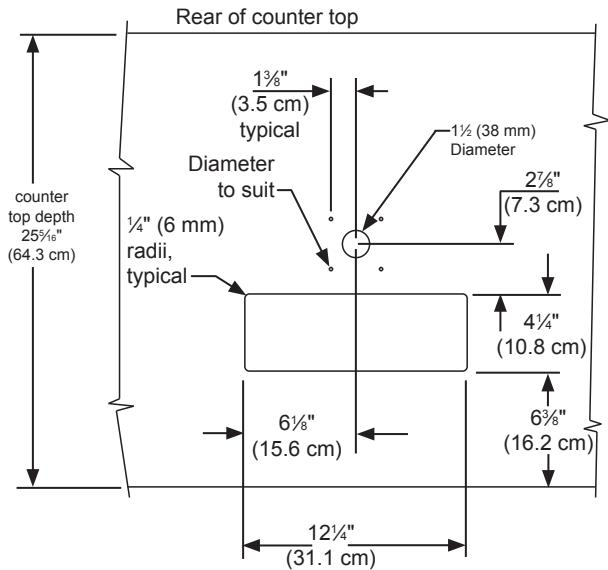

Figure 31
The cutout dimensions shown in Figure 31 are based on a $25\frac{5}{16}$ " (64.3 cm) deep counter top. Your counter top may be different than this and require other front to back dimensioning. Refer to the product dimensions on pages 6 and 7 when determining the required dimensions.
4. If you are installing your keg refrigerator under a counter you will need to drill 5 holes in the counter top to mount the tower. The first hole is a $1\frac{1}{2}$ " diameter hole located at the center of the tower for the beer line, locate approximately $13\frac{1}{2}$ " (34.3 cm) from the front edge of the counter top (based on a counter top depth of $25\frac{5}{16}$ "). Next drill the 4 tower mounting holes per the dimensions in Figure 31. The hole diameter is dependent on the counter top material and if screw anchors are required. The screws supplied are in the literature pack and are a #10 x 1" type AB stainless steel screw. Mark and cut the rectangular cutout for the drain sump. After the holes are drilled and the keg refrigerator is in place under the counter top feed the beer line through the tower gasket, the $1\frac{1}{2}$ " hole in the counter top and the hole in the top of the keg refrigerator. Mount the tower to the counter top with the 4 screws provided. Place the counter top drain sump, from the literature pack, in the rectangular hole with the radius cutout to the rear around the tower and place the grate in the sump.